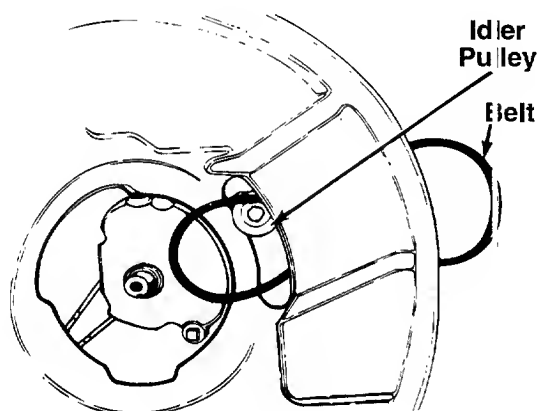

FIGURE 14.
- A. Push the idler pulley up out of the way as shown in figure 14.